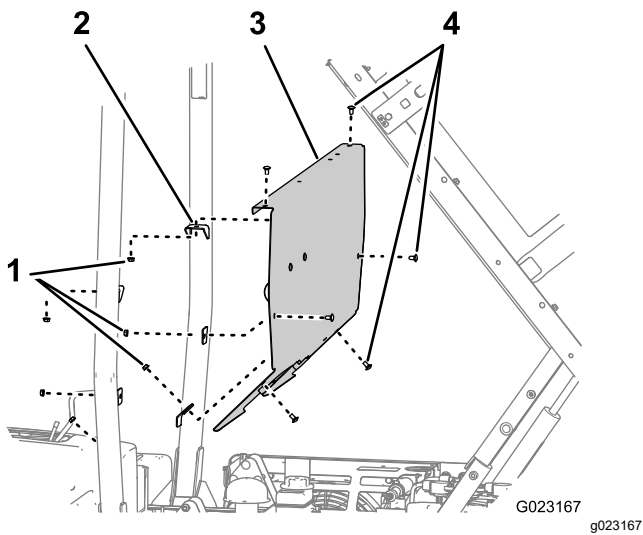

Figure 10
- 1. Remove the 6 carriage bolts and 6 nuts that secure the ROPS panel to the mounting brackets on the rollbar (Figure 10).
- 2. Remove the ROPS panel from the machine (Figure 10)